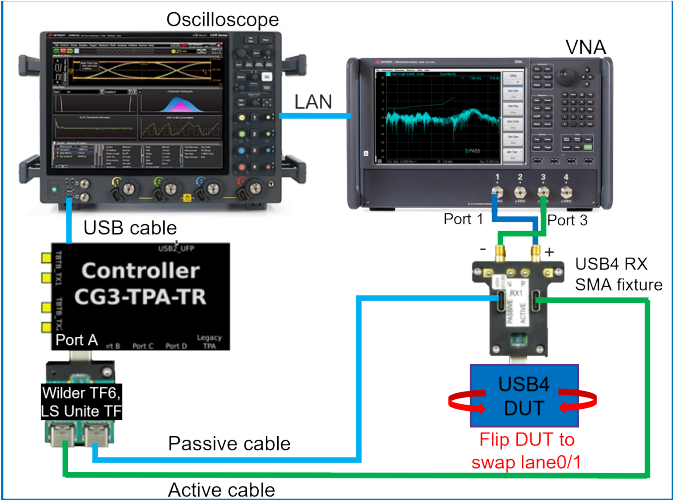

Figure 79 Tx Return loss test setup with Rx SMA test fixture
- 1 For the physical connections between the DUT & the Oscilloscope, see the connection diagrams in Figure 79 and Figure 80.